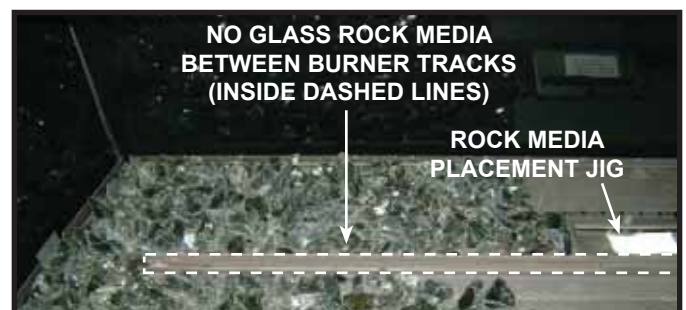
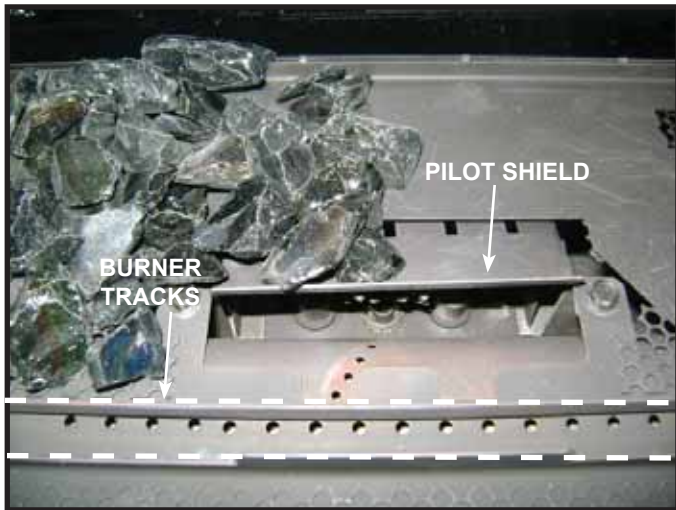

Figure 14.2. Installing Glass Rock Media
Figure 14.3. Placing Glass Rock Media on Pilot Shield
3. Place an even layer of glass rock media around the base pan as shown in Figure 14.2. Do not place glass rock media between the inside edges of the media tray. Place entire contents of the bag onto the media tray. See Figure 14.2.
4. Remove rock placement jig by removing one screw that attaches jig to pilot shield. See Figure 14.2. Place smaller sized glass rock media on top of the pilot shield. See Figure 14.3. Do not place glass rock media in front of pilot assembly.